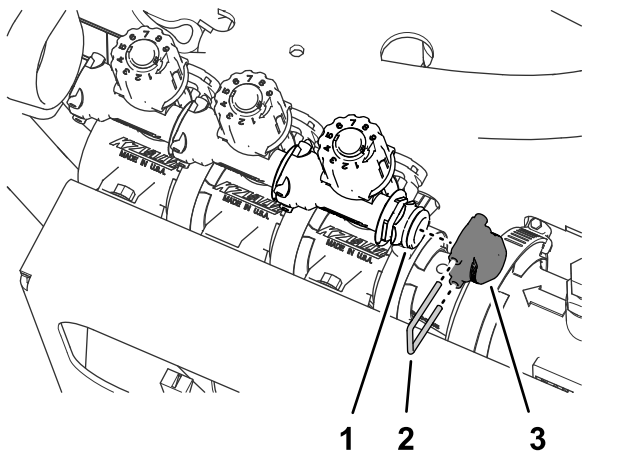

Figure 63
3. Remove the retainer that secures the cap to the quick disconnect fitting of the bypass valve (Figure 63).